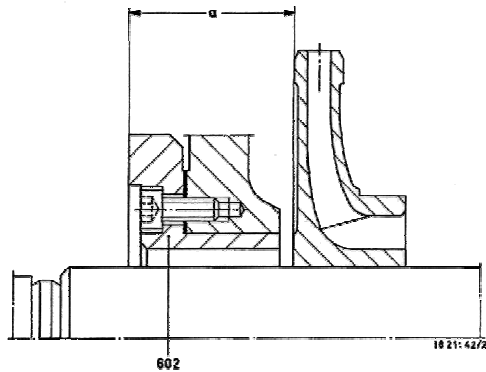

Figure 38 – Rotor adjustment, distance "a"
Measure the distance "a" from the contact face of the balance counter disc (602) to the final stage impeller hub (Fig. 38).